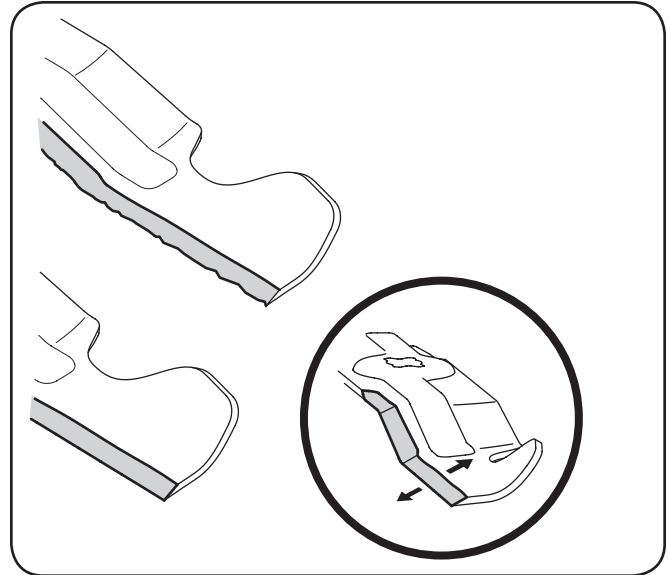

Figure 7-4
NOTE: A block of wood may be placed between the deck housing and the cutting edge of the blade to help in breaking loose the hex nut securing the blade. See Figure 7-4.
3. To properly sharpen the cutting blades, remove equal amounts of metal from both ends of the blades along the cutting edges, parallel to the trailing edge, at a 25°- 30° angle. Always grind each cutting blade edge equally to maintain proper blade balance. See Figure 7-4.